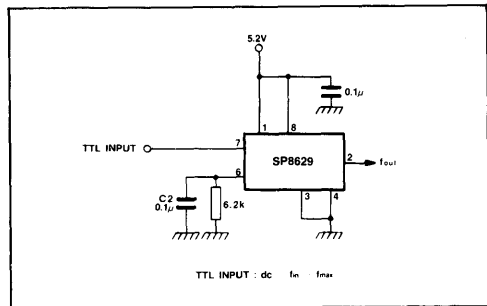

Fig.7 TTL input ($DC < f_{in} < f_{max}$)
- The input waveform will normally be sinusoidal but below $10MHz$ correct operation depends on the slew rate of the input signal. A slew rate of $50V/\mu s$ will enable the device to operate down to DC. The device will operate with a TTL input signal as shown in Fig. 7 and is DC coupled to the input.